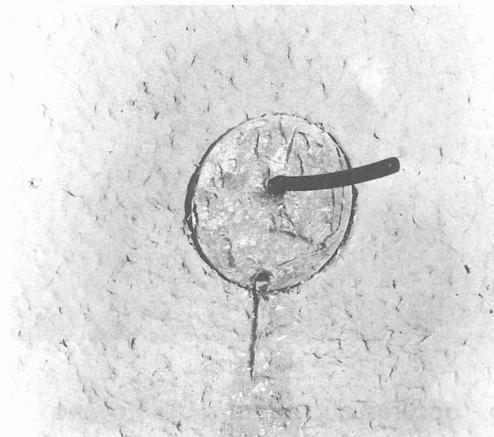

FIGURE 16
- 8.02 Cut $\frac{1}{2}$ " of tip of nozzle provided with the cartridge. Insert the nozzle into the hole of the existing seal making sure the nozzle goes through the seal into the open conduit. If water is present it may run through the nozzle. (see Figure 16)